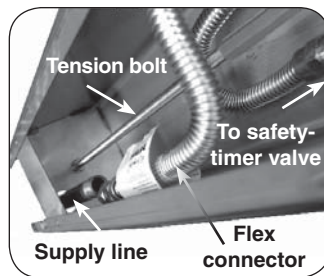

Fig. 8-2
3. Verify that the gas supply line fits through the gas line clearance hole in the bottom of the post (see Fig. 8-2). The clearance hole is the larger of the two holes in the bottom of the post and is off center.
5. Attach the extension to the bottom of the barbecue post so that the open portion is toward the back of the barbecue and the five holes in the extension line up with the five (5) weld-nuts in the post.